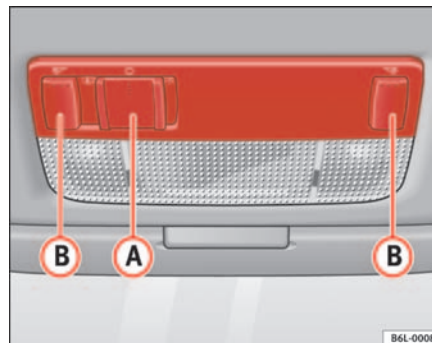

Fig. 61 Front reading
Press the corresponding button (B) ⇒ fig. 61 to switch on the reading light.